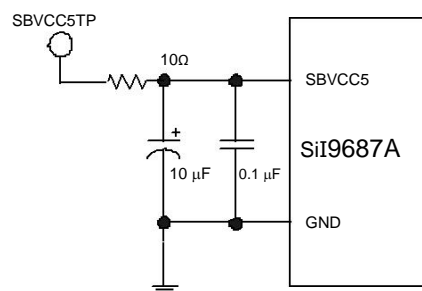

Figure 6. Test Point SBVCC5TP for SBVCC5 Measurement
3. SBVCC5 Voltage is measured at SBVCC5TP as shown in Figure 6.